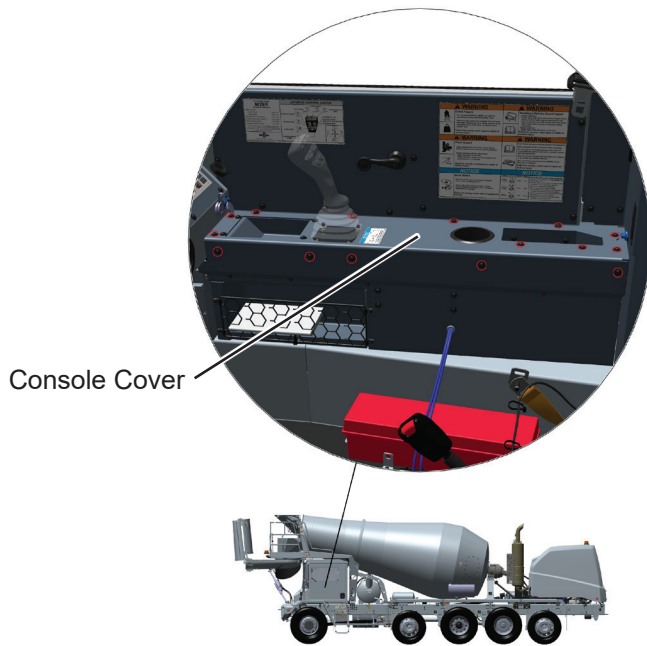

Figure 16
30. Reinstall console cover with fifteen screws and washers removed in Step 14. See Figure 16. Final tighten screws to 75 in. lbs.